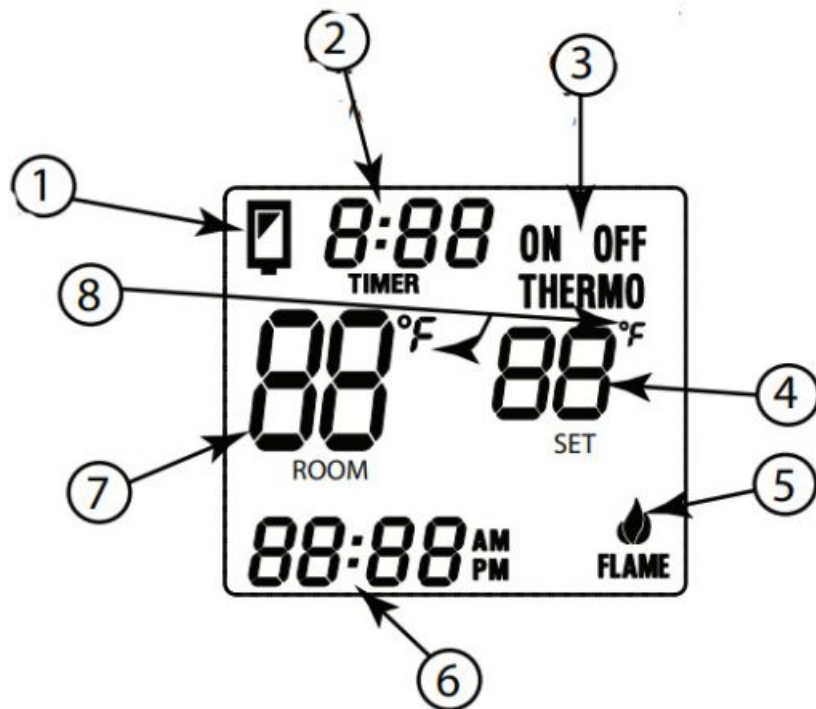

Fig. 2 LCD Display Functions
The transmitter operates on (2) AAA size 1.5DCV batteries. It is recommended that ALKALINE batteries always be used for longer battery life and maximum operational performance. **IMPORTANT:** New or fully charged batteries are essential for the proper operation of the multi-function transmitter. Insert (2) AAA size 1.5DCV batteries into the battery compartment on the back of the transmitter, positioning the (+) and (-) ends of the batteries as indicated on the casing. When the batteries are inserted, the screen in figure 2 (with similar numbers) will display.
Note: If a LOW battery icon appears on the screen, check the position of the batteries. See Fig. 2.